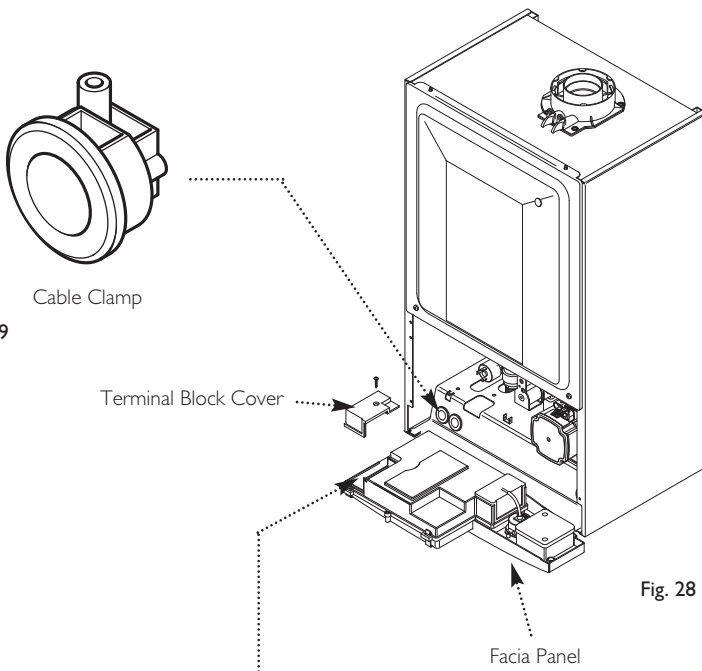

Fig. 28
2. Completely undo the screws securing the fascia panel and hinge it down (Fig. 28).
3. Undo the terminal block cover securing screw and remove the cover (Fig. 28).